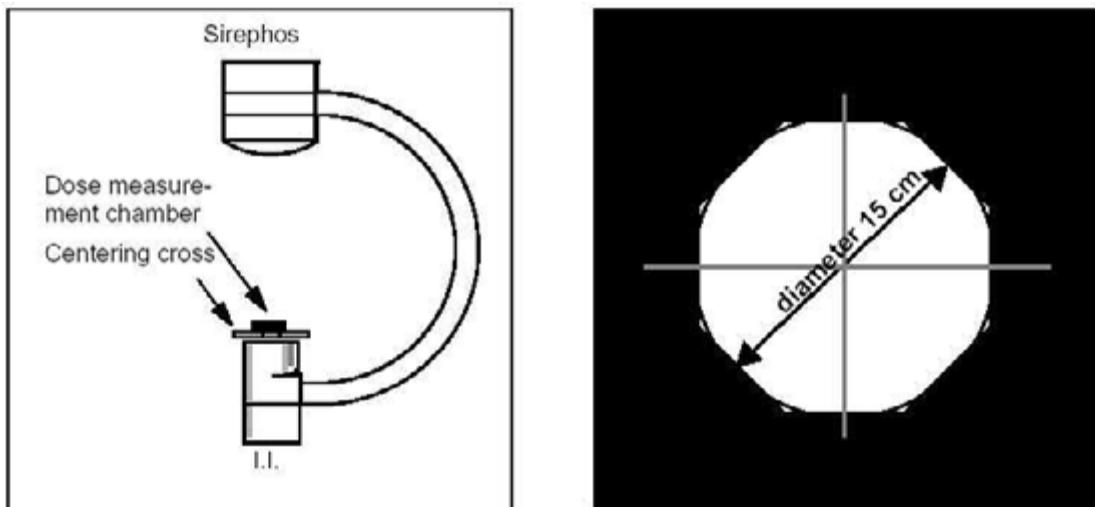

Fig. 7: Accuracy of the Dose Area Product
-  2. Attach and center the centering cross on the I.I. (Fig. 7 / p. 24).
- 3. Briefly release fluoroscopy and adjust the collimator X-iris on the X-ray field to a diameter of approx. 15 cm (Fig. 7 / p. 24).